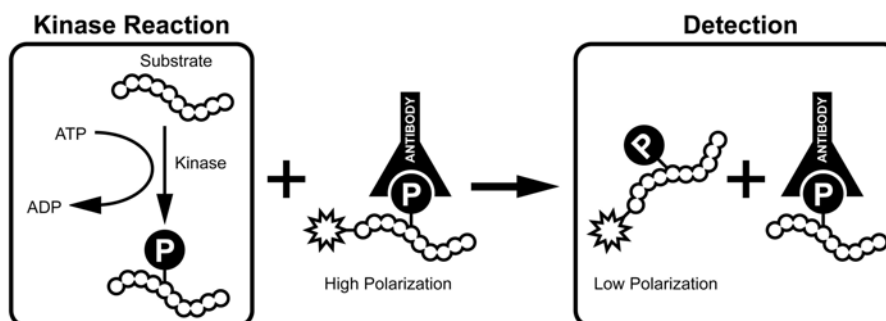

Figure 1. Schematic Illustration of an FP-based kinase assay.
Fluorescence polarization (FP) measures how quickly a fluorophore rotates during its fluorescence lifetime (the period after it has been excited by plane-polarized light, but before it emits light). Small molecules tumble quickly in solution, so emit relatively depolarized light, but larger molecules and complexes tumble more slowly, and emit more highly polarized light. Therefore, small molecules yield low polarization values and large molecules yield high polarization values (Figure 1).